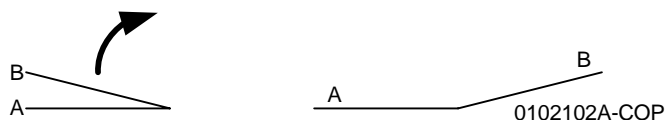

Figure 1 Fold Specification
6. Measure X1 and verify Fold Position on each job against the Fold Specification table in Figure 1.